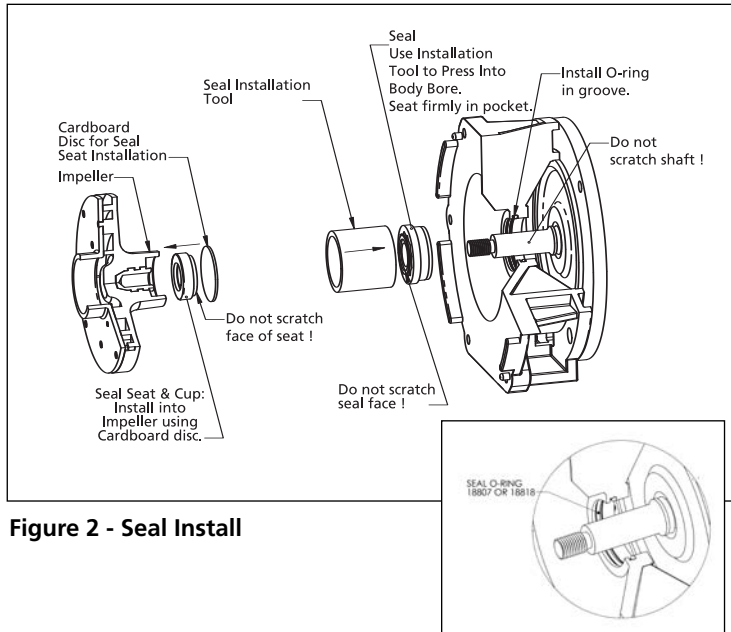

Figure 2 - Seal Install
4. The ceramic seat is located on the back side of the impeller (part of Ref. No. 5). Pry the seat out by using a screwdriver in the inside hole (see Figure 2). Be careful not to damage or scratch the inside surfaces of the bore holding the seat. Such scratches can cause leaks. Replace the impeller if such damage occurs.
6. Use a wooden dowel to push out the mechanical seal (part of Ref. No. 5) from the body adapter (Ref. No. 1) (see Figure 2). Do not dig the seal out from the front.
3. Wet the rubber portion of the new seal seat (part of Ref. No. 5) with a light coating of soapy water. While wearing clean gloves or using a clean light rag, press seal seat squarely into impeller recess. Use the cardboard washer (usually supplied with new seal) to place over the polished ceramic surface and use a piece of pipe or dowel rod to press in firmly but gently (see Figure 2). Avoid scratching the ceramic face, usually white.
of motor shaft (opposite the threaded end) to tighten impeller to 150 in-lbs. of torque (see Figure 2).